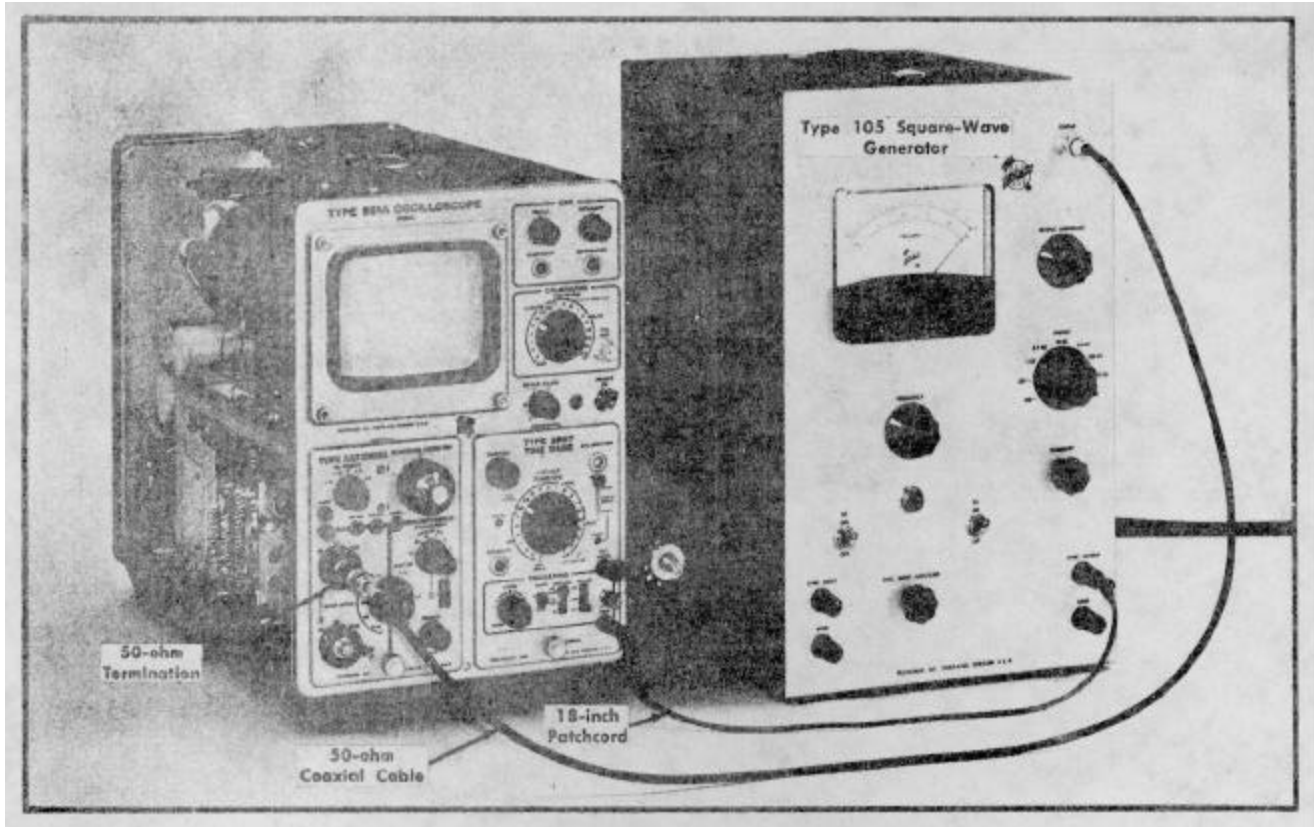

Fig. 5-18. Setup at completion of step 18d.
c. Apply a 30-volt (15 volts peak referenced to ground) 20-Hz sine-wave signal from an audio generator through a 42-inch coaxial cable, a BNC T connector and a dual-input connector (item 13) to the A and B input connector on the Type 3A7.
d. Connect a coaxial jumper cable and clip-lead adapter between the BNC T connector and the time-base Ext Input connector. If the time-base unit does not have a control for the external input, connect a 50,000-ohm potentiometer between the Ext Input connector and ground. Connect the center conductor clip lead to the potentiometer wiper arm. Fig. 5-18 shows the complete setup when a Type 2B67 is used as the time-base unit.
d. Connect a coaxial jumper cable and clip-lead adapter between the BNC T connector and the time-base Ext Input connector. This is the same setup as shown in Fig. 5-18. (If a Type 2B67 is used, connect the clip-lead adapter to the 50,000-ohm potentiometer as shown in the illustration.)